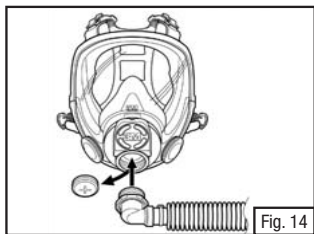

Fig. 14
3. Screw the breathing tube inlet into the PAPR outlet (Fig. 14). IN ORDER TO ENSURE THAT THE BREATHING TUBE IS SECURILY ATTACHED, DO NOT TRY TO CONNECT BREATHING TUBE WHILE FACEPIECE IS BEING WORN.